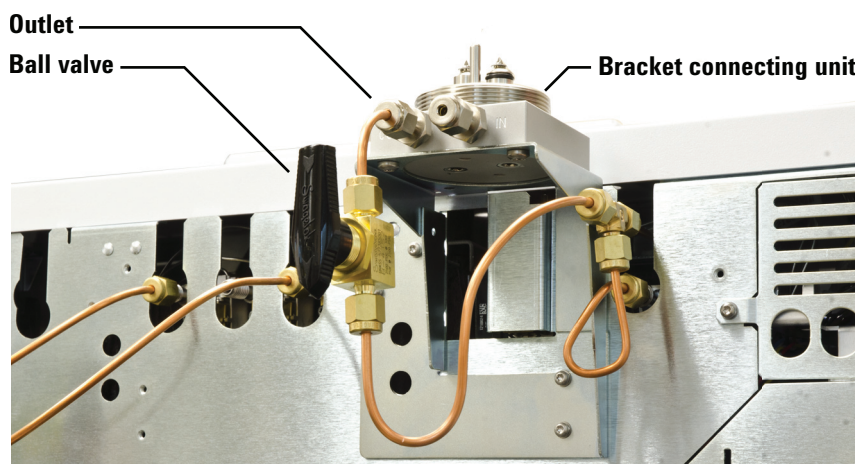

Figure 23. Ball valve installed following the outlet connection on the bracket connecting unit
- 5 If you have the Gas Clean Carrier Gas Kit for 7890 (CP17988), install a ball valve immediately following the outlet connection on the bracket connecting unit as shown in Figure 23.